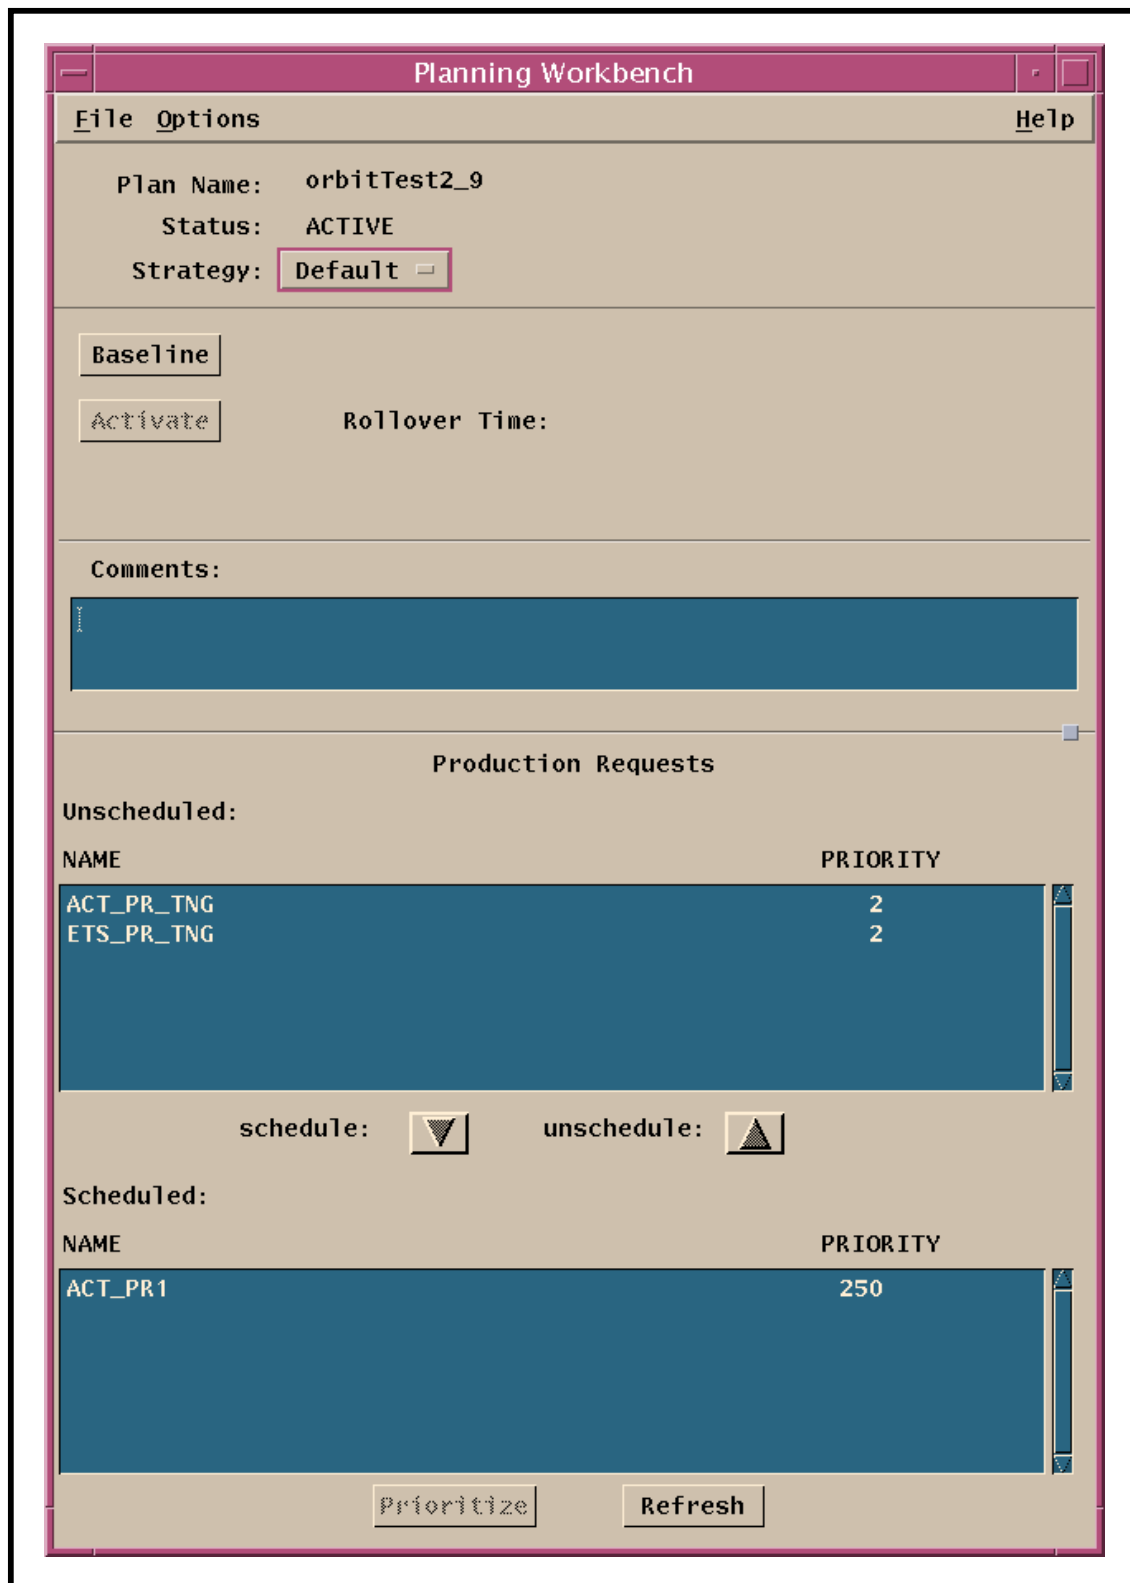
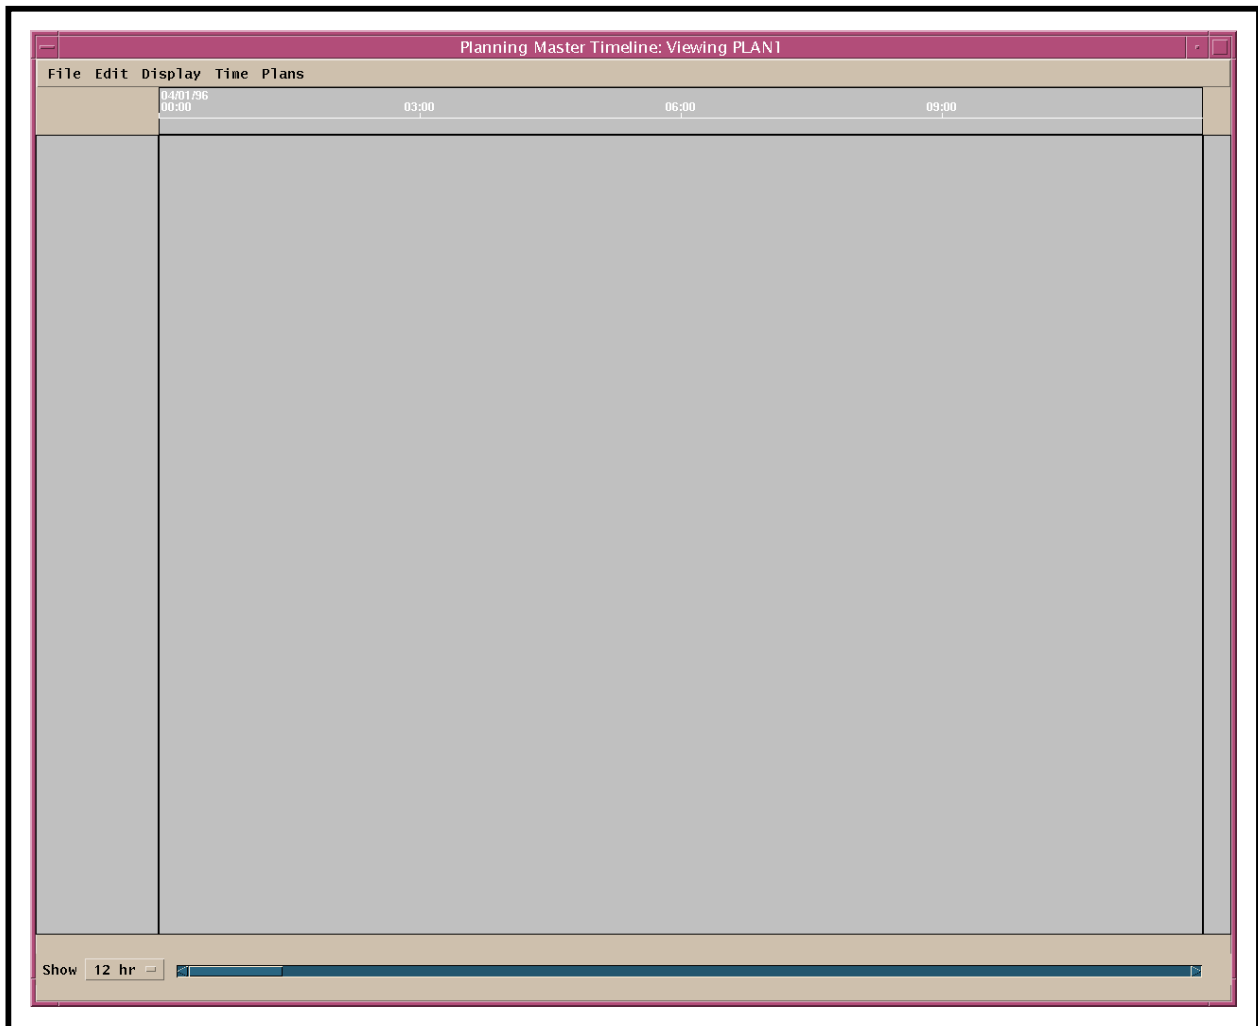

Figure 36. Planning Workbench GUI
Figure 37. Production Planning Master Timeline GUI
- Eventually, the **Planning Workbench GUI** (Figure 36) is displayed. Then the **Production Planning Master Timeline GUI** (Figure 37) is displayed.
- The **Planning Workbench** GUI (Figure 36) is displayed.
- The **Production Planning Master Timeline** GUI (Figure 37) is displayed.